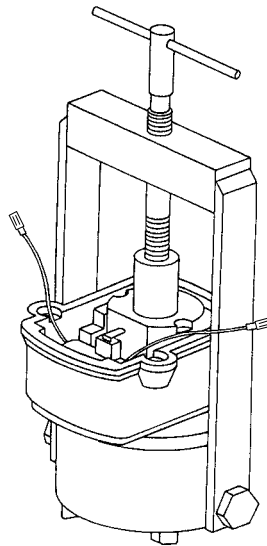

Figure 9.3
- E. Turn T-handle screw to seat the bearing (9) against the bearing shoulders on the rotor shaft (10).
- F. Remove the rotor shaft (10), adapter bushing, adapter plate, and bearing assembly plug from the T125 assembly fixture.
9.3 INSTALL ROTOR SHAFT ASSEMBLY (10)
- A. Place magneto frame (8) in T125 assembly fixture (flange down).
- B. Position rotor shaft assembly (10) in the magneto frame (8). Bearing cap (11) should be properly oriented prior to pressing into frame (8).
- C. Insert T101 bearing assembly plug into the T125 assembly fixture T-handle (See Figure 9.3).